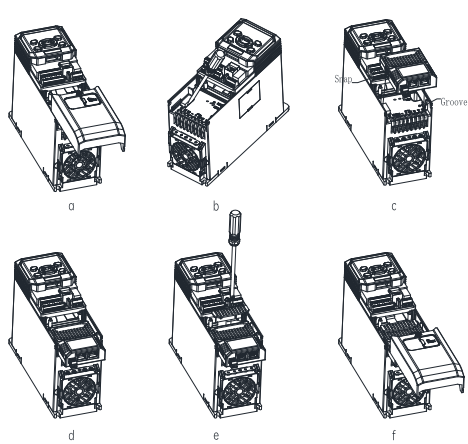

Fig. 4 PN card installation steps
- (1) When the drive is powered off, press the granulated part on the middle-upper of the lower cover, slide it down firmly to take down the cover, as shown in Fig. 4-a.
- (2) Use a straight screwdriver to pry open the dustproof cap or rubber plug, as shown in Fig. 4-b.
- (3) Install the PN option: hold the expansion box (a bus card inside) upwards (indicators up), then align the expansion box with the electrical bus interface of the installation position, and press down horizontally to buckle the spring snap of the expansion box into the groove at the lower part of the drive, as shown in Fig. 4-c and d, Then, use the included retaining plate to secure the option and tighten it with screws (for enclosure B only), as shown in Fig. 4-e.
- (4) The bus card is successfully installed, as shown in Fig. 4-f.